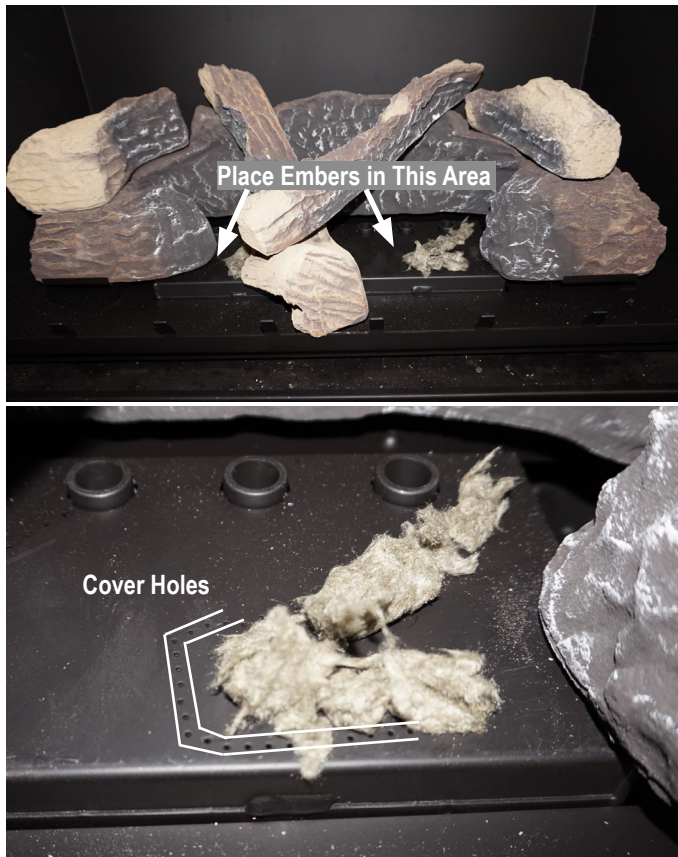

Figure 27e. Placing Embers. **Note:** Embers in photo moved to illustrate placement .
Step 8. Place the Embers, covering the small holes in the burner as shown in figure 27e.